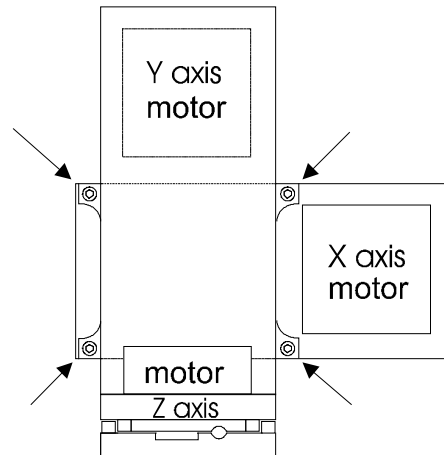

Figure 7-17. Y-axis mounting screws indicated by arrows (Right hand MP-285, top view).
4. Identify the four hex (Allen) “cap” screws that mount the Y-axis slide assembly on top of the X-axis slide assembly (indicated by arrows in Figure 7-17). Using a 2.5mm Allen wrench, remove those 4 screws. The Allen wrench that was shipped with the MP-285 for removing the shipping screws is the correct size for these screws as well.